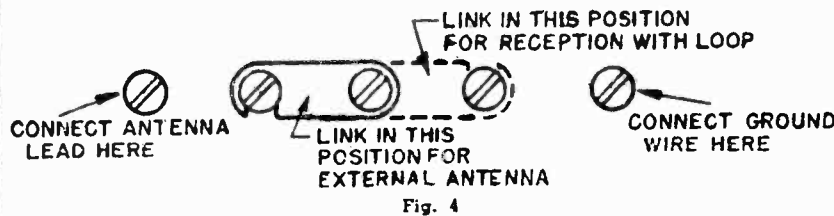

Fig. 4
*Be sure coupling link is in correct position for external antenna operation. See illustration below (Fig. 4).